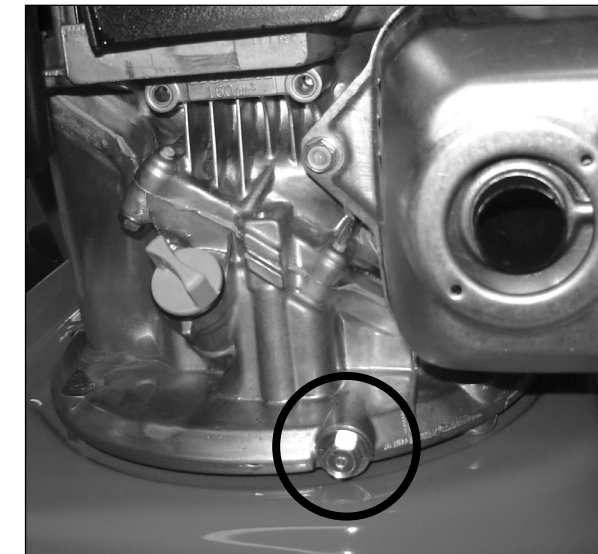

Figure 16 - Oil Drain Location
- Locate and remove the engine oil drain plug (See Figure 16).